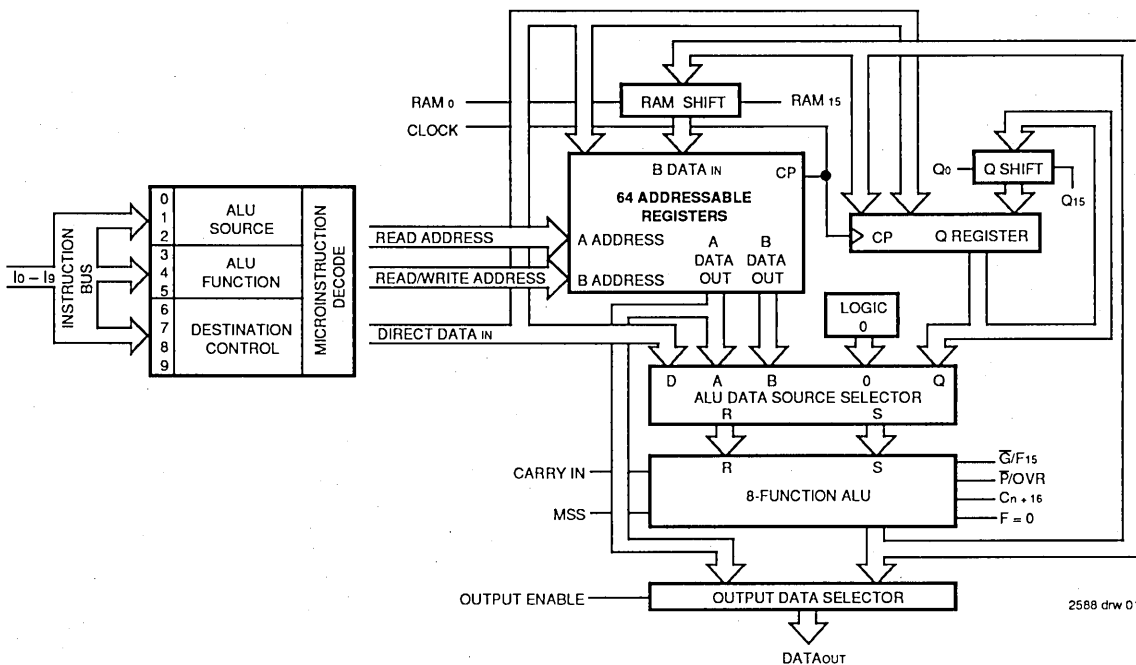

Figure 1. IDT49C402A 16-bit Microprocessor Slice
The block diagram, Figure 1, shows the familiar architectures of the 2901 with register files which have both A and B data feeding into an ALU data source selector. This combines together the data from the register file along with direct data input (D) and the Q Register. The output of the ALU data source selector produces two operands, R and S. R and S are fed into an eight-function ALU, the output of which can go to the data output pins or be fed back into the register file and/or Q Register.